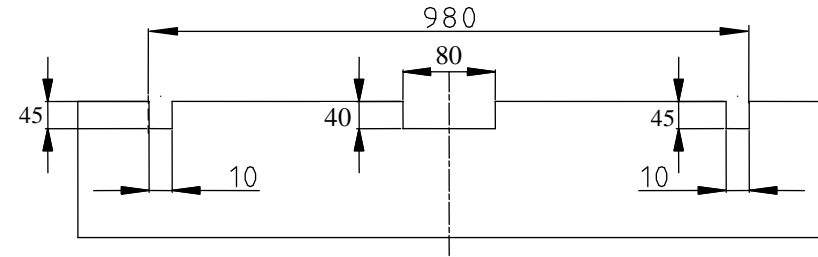

Fig.2
4. Fix bumper after cut his fragment – see fig. 2 (inside, central part).
5. Fix body of the automat and place tow-ball according to supplied instruction. Note! Remember to place socket plate (pos. 3) as shown on the drawing 1.